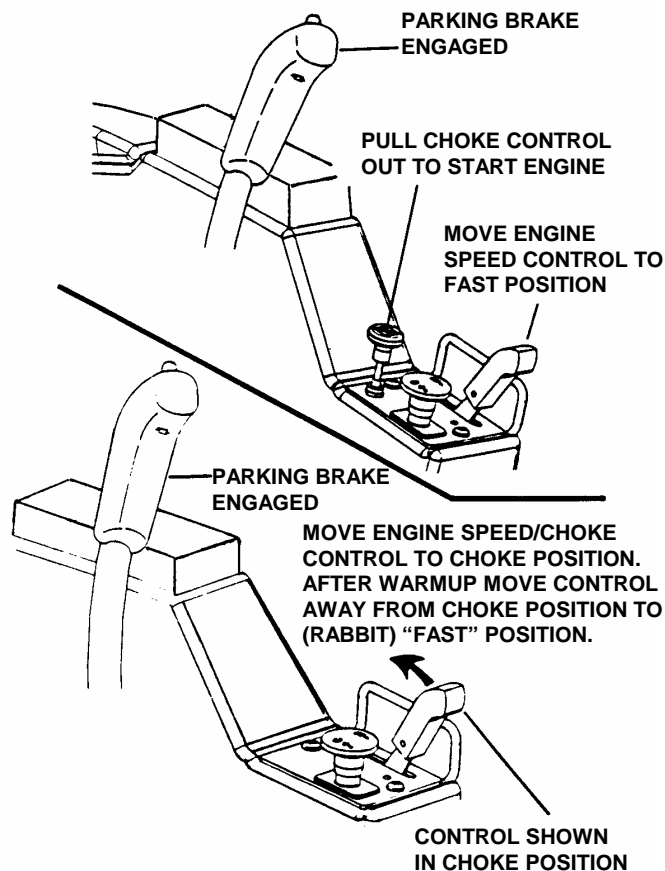

FIGURE 2.6
2. Make certain the blade switch is in the "Off" position. See Figure 2.6.
6. Move engine speed control to the choke position or pull choke control to choke position. See Figure 2.6.